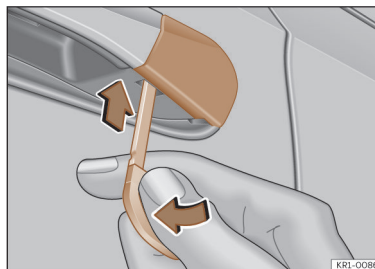

Fig. 74 Driver's door handle: remove the cover.
- Insert the key blade into the lower opening in the cover on the driver's door handle then lever in the direction of the arrow >>> **Fig. 74**.